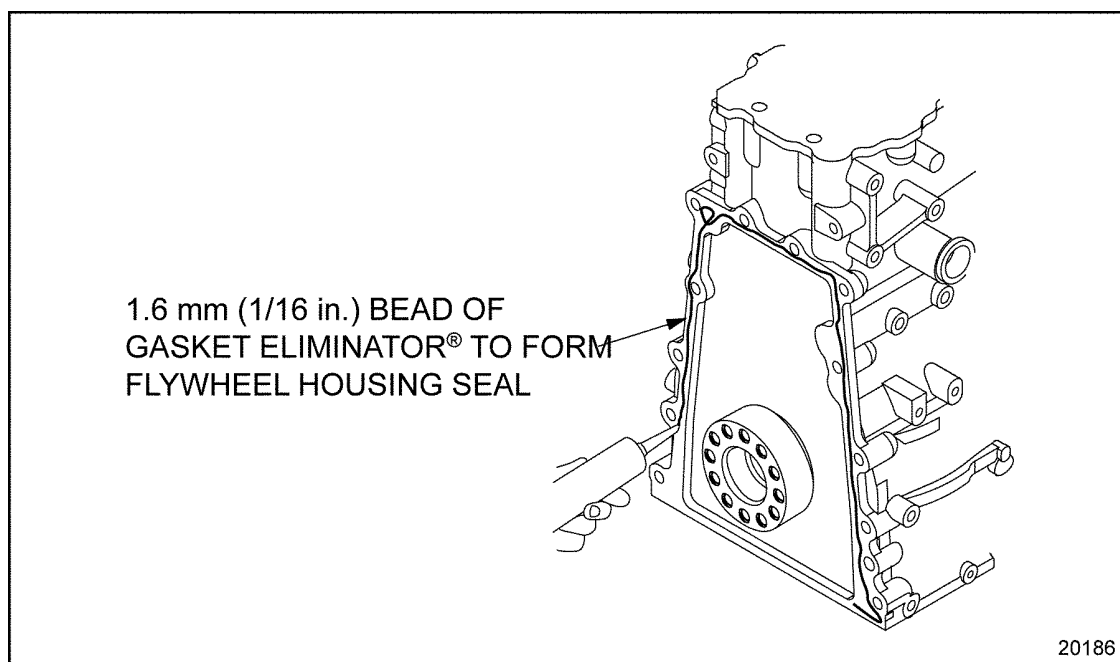

Figure 1-220 Gasket Eliminator Installation
1. Apply a continuous 1.6 mm (1/16 in.) bead, of gasket eliminator, PT-7276(Loctite 51580), or equivalent, to the cylinder block where it mates with the flywheel housing. See Figure 1-220.